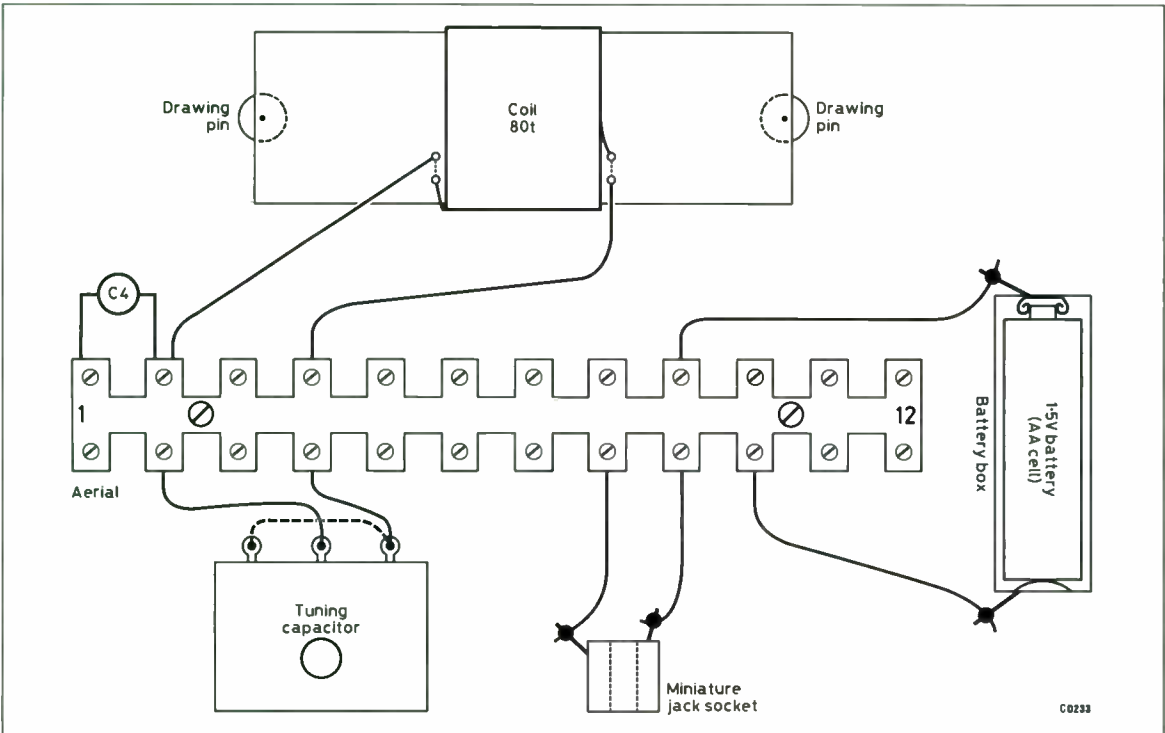

Fig 3.18. The layout of the parts on the wooden base
2. Now wind the coil. A standard toilet roll tube is about 42mm in diameter and 110mm long. Don't worry if yours is not exactly this size! Make two small holes in the tube about 40mm from one end. See Fig 3.18. Thread the enamel-covered wire through these holes, leaving about 100mm sticking out for the connections. Now wind on 80 turns of wire. Keep the turns close together but not on top of each other. This is one of the most important parts of the receiver so try to keep the winding tight. Be patient! When finished make two more holes and thread the end of the wire through them to hold the coil in position. If you have some clear varnish, give both the coil and the tube a coat and leave to dry.
3. The base can be any piece of soft wood about 150mm square and at least 10mm thick (an off-cut from a piece of floor board supplied by a friendly builder, perhaps). Look at Fig 3.18. Fix the terminal strip to the base with two small wood screws or, if you can't get any small enough, with double-sided sticky pads or even Blu-Tack™.
Fix the coil near one edge of the base using two drawing pins and then connect the ends of the coil to the terminal strip as shown in Fig 3.18. Carefully
4. Put the battery into the box (it must be the right way round – check Fig 3.18) and plug in the earpiece; you should be able to pick up some stations by altering the